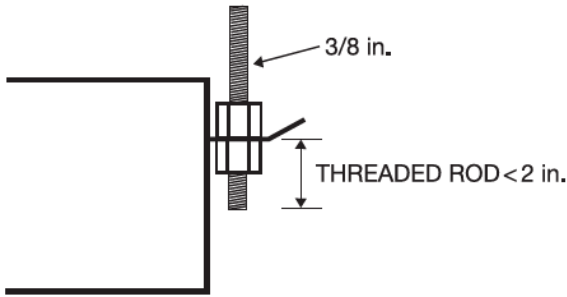

Fig. 8 — Threaded Rod
3. Secure the unit in position with locknuts and washers on both sides of the unit bracket. Ensure that the threaded rod does not protrude more than 2 inches below the mounting brackets as shown in Fig. 8.